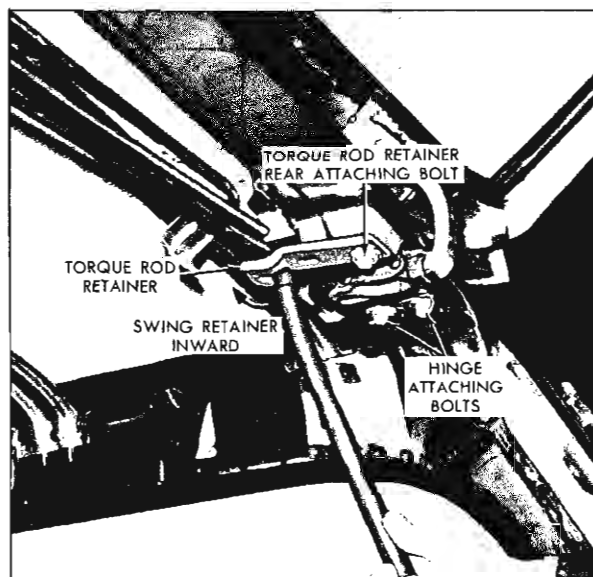

Fig. 14-12 Back Door Hinge and Torque Rod Removal
4. Using a suitable length of pipe over end of torque rod, release tension of torque rod from retainer. While tension of torque rod is released from retainer remove retainer front attaching bolt and loosen (no more than 2 turns) retainer rear attaching bolt; then, swing front end of retainer towards outside of body and release torque rod (Fig. 14-12).